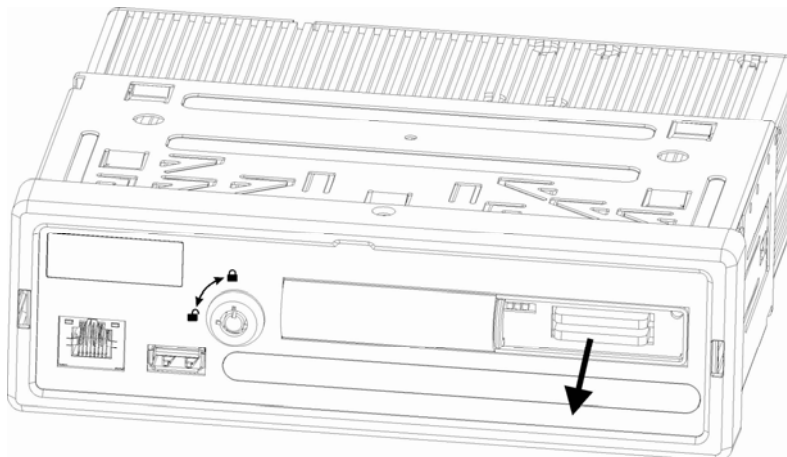

Figure 2-14
3) Push the SD card button and then you can see the card pops up. Please follow the arrowhead in Figure 2-14 to remove the SD card.